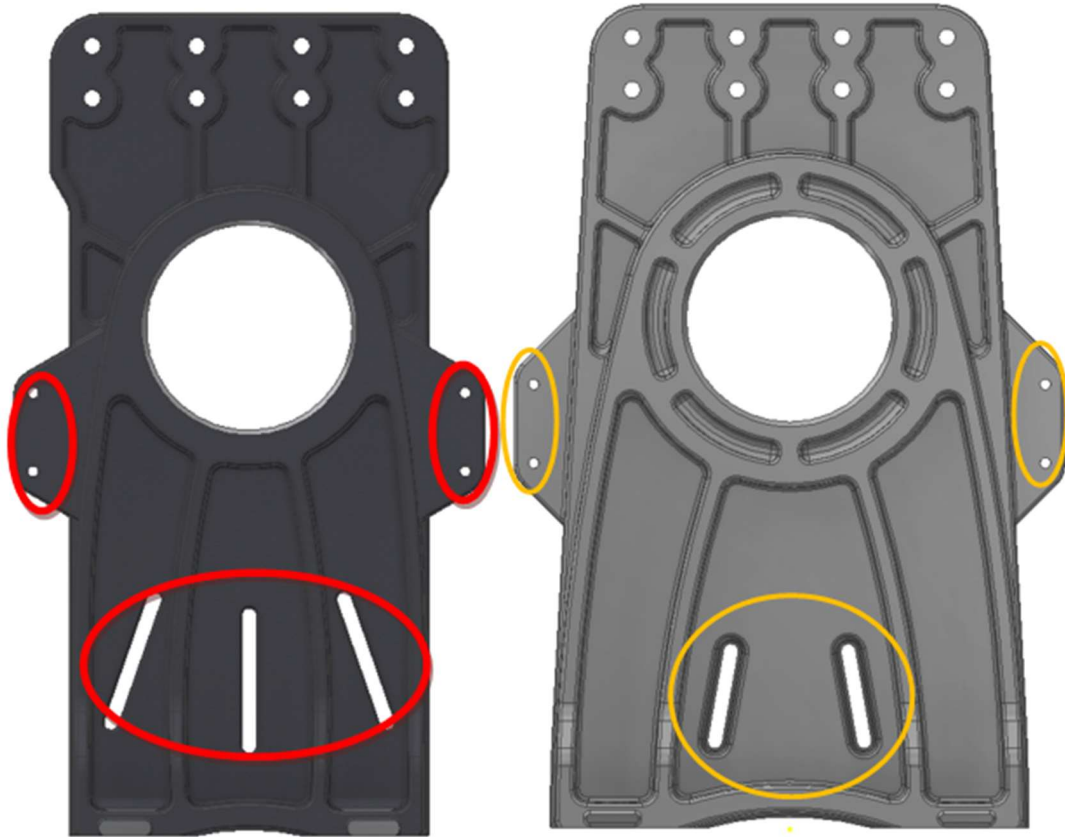

Figure 4-11: Outboard Stand Mounting Locations GT11 (left) and GT31 (right)
- Attach the BS rope retainer plates to the outboard stands using the provided bolts and the holes shown in Figure 4-11. Confirm the outer edges of the retainer plates align so that the retainer rods can be inserted through both plates. Securely tighten the bolts.
- Attach the retaining rods to the retainer plate using the provided bolts. In addition, attach three rods to the outboard stand slots illustrated in Figure 4-11. Take care to maintain the parallelism (squareness) of the plates with each other.
- Attach the retaining rods to the retainer plate using the provided bolts. In addition, attach two rods to the outboard stand slots illustrated in Figure 4-11. Take care to maintain the parallelism (squareness) of the plates with each other.